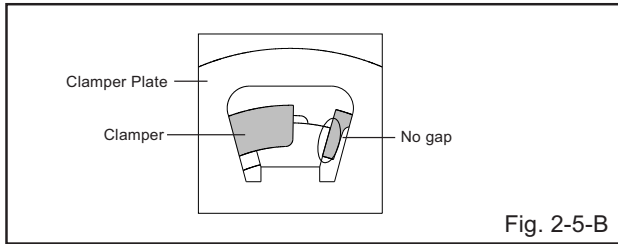

Fig. 2-5-B
### 2-5: CLAMPER ASS'Y (Refer to Fig. 2-5-A)
1. In case of the Clamper Ass'y installation, install correctly as Fig. 2-5-B.